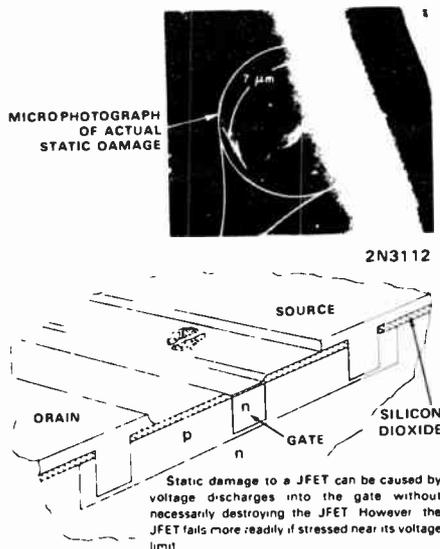

Figure 3. Example of nondestructive ESD damage to a JFET device.
**Junction field-effect transistors** which have high impedance gates are particularly sensitive to ESD. They have extremely low gate-to-drain and gate-to-source leakage in the order of less than 1 nanoampere, and relatively high breakdown voltage of greater than 50 volts. Therefore, the gate-to-drain and gate-to-source are usually the most sensitive ESD paths. Figure 3 is a